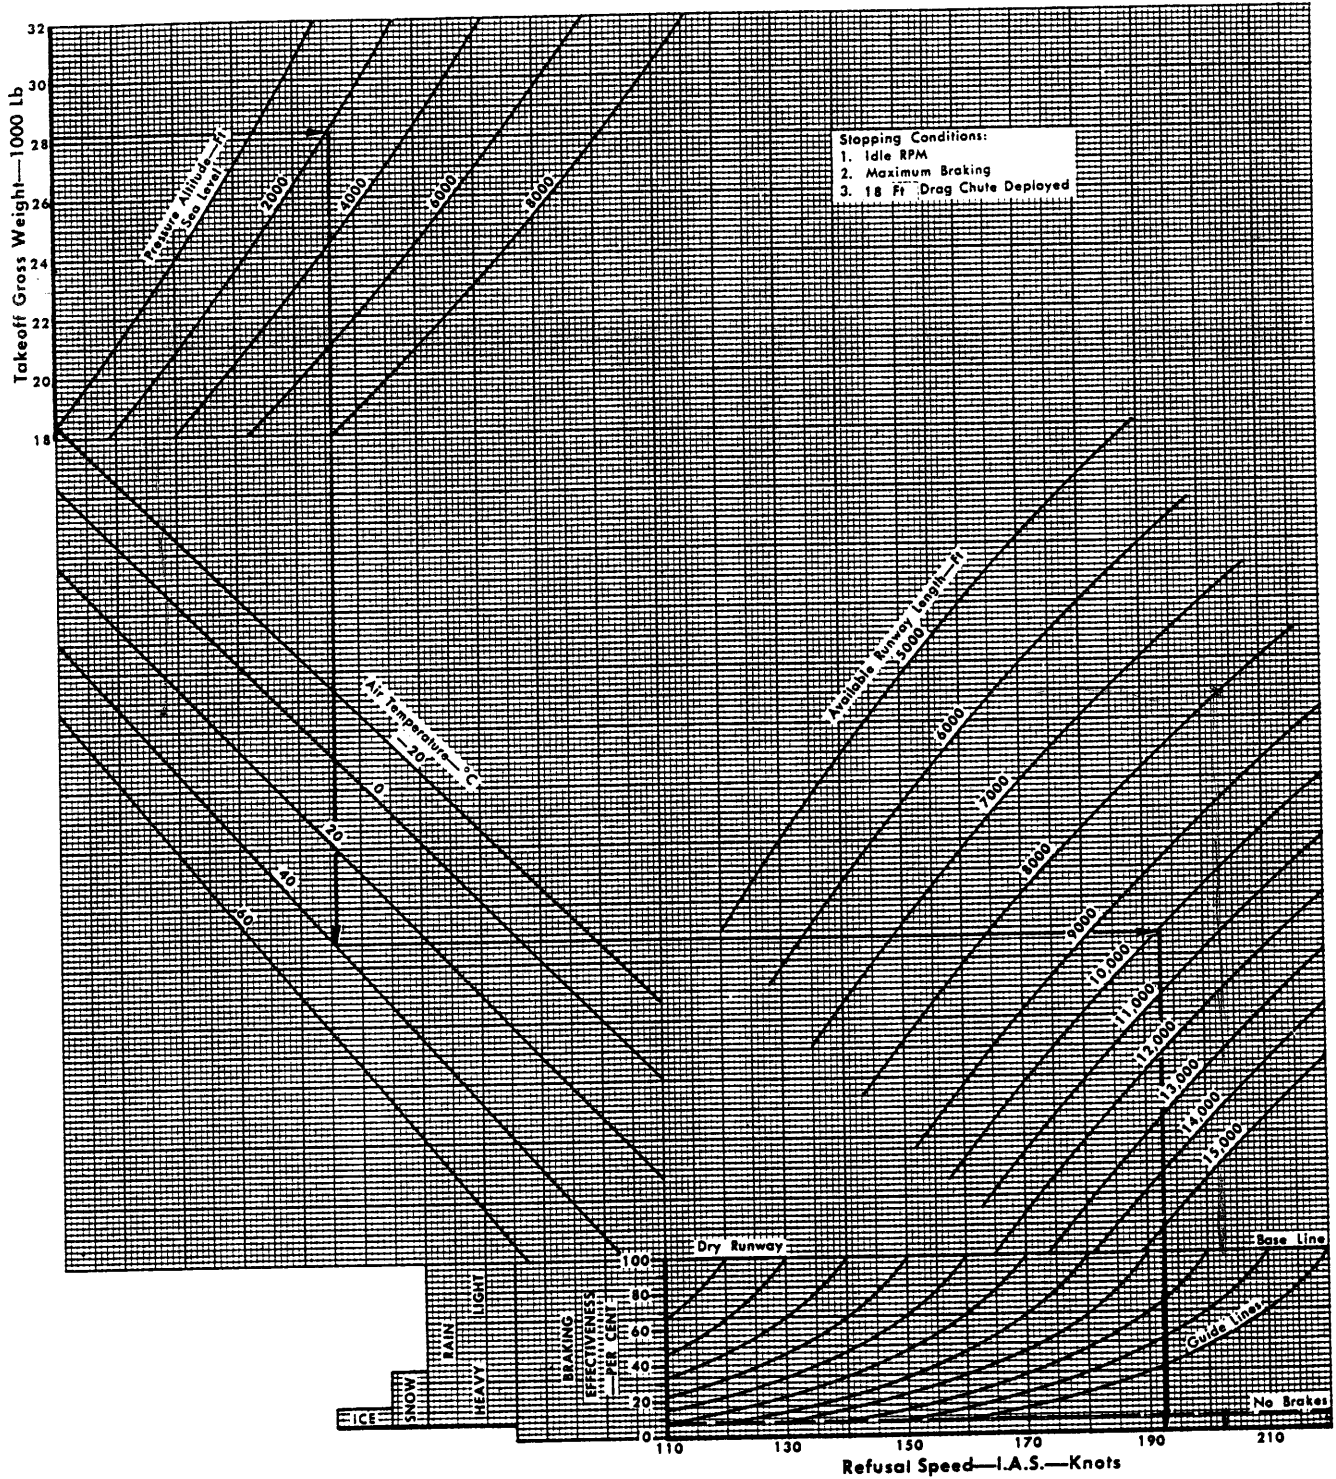

Figure A2-4
- e. The refusal speed, from Figure A2-4 (Refusal Speed) is 193 knots.